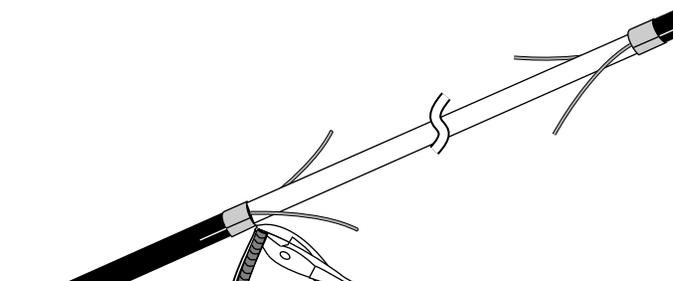

Figure 36
7.22 Carefully flex the sections of armor and sheath and remove them. Side cutters may be helpful in removal (Figure 36).